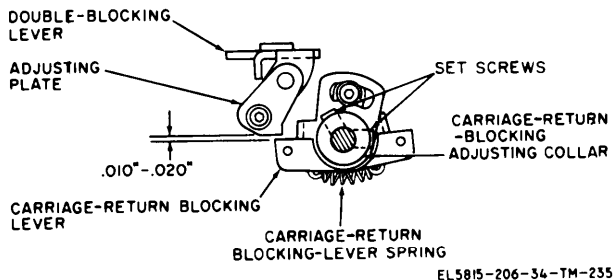

Figure 3-163. Carriage-return blocking-lever adjustment (TT-4B/TG, TT-4C/TG, TT-335/TG, TT-537/G, TT-698A/TG, and TT-698B/TG).
(1) Remove the carriage-return blocking adjusting lever, carriage-feed blocking adjusting lever, carriage-return blocking lever, and the laminated washer. Peel the laminated washer to meet the requirement (a (1) above). Reassemble the above items in reverse order and check the requirement.
(2) Loosen the setscrews in the carriage-return blocking adjusting lever. Insert a 0.005-inch feeler gage between the carriage-feed blocking adjusting lever and the carriage-return blocking lever. Move the carriage-feed blocking adjusting lever against the feeler gage and tighten one setscrew friction-tight. Perform the carriage-return blocking adjusting lever adjustment (para 3-196) before tightening the setscrews. Tighten the setscrews. Perform the carriage-feed blocking adjusting arm adjustment (para 3-197).
**3-196. Carriage-Return Blocking-Lever Adjustment (TT-4B/ TG, TT-4C/TG, TT-335/TG, TT-537/ G, TT-698A/TG, and TT-698B/TG) (fig. 3-163)**